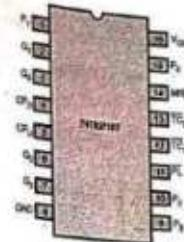

Fig. 5.12.11
- Fig. 5.12.11 shows the pin diagram for 74192 and 74193.